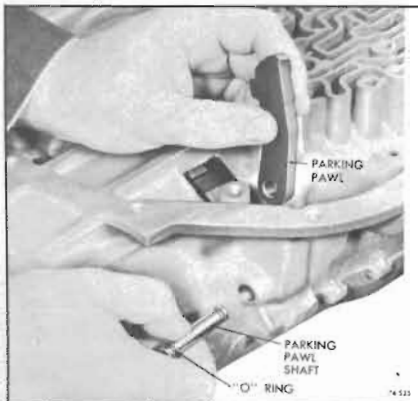

Figure 74-535
i. Remove parking pawl shaft, "O" ring seal and parking pawl. See Figure 74-535.